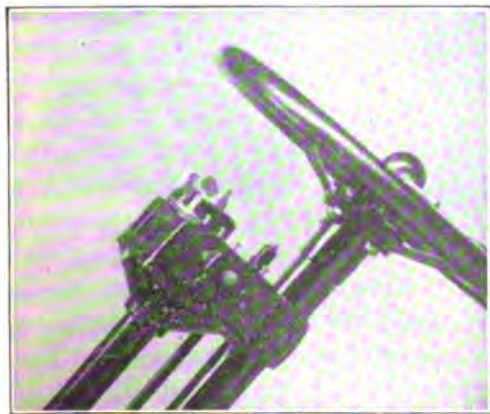

Fig. 177. Packard Electrical Control
*Electrically Operated Switches.* In this type a conventional push-button switch, either on the dash or mounted on the steering column, as shown in Figs. 177 and 178, which illustrate the Packard and Overland control, respectively, takes the place of the foot button. This push-button switch, however, only handles a shunt current of low value, which energizes a solenoid to close the contacts of the main